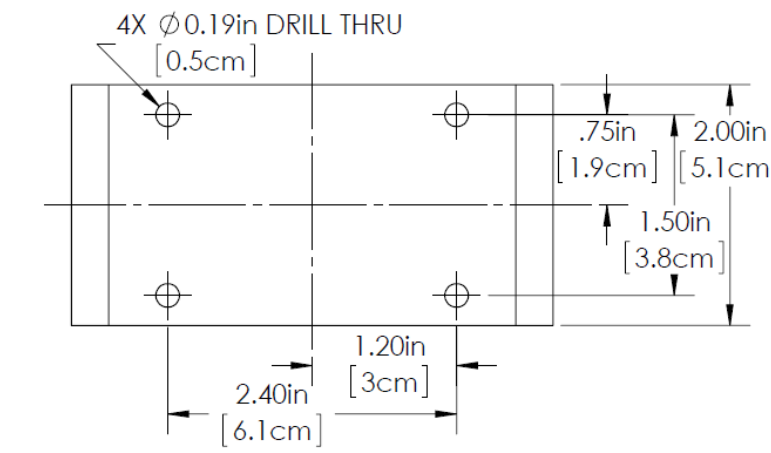

Figure 3-1 Mounting Bracket Hole Pattern
Figure 3-1 Mounting Bracket Hole Pattern	6
3. Refer to the mounting bracket hole pattern shown in Figure 3-1 and drill four 0.191 in (0.48 cm) diameter holes.